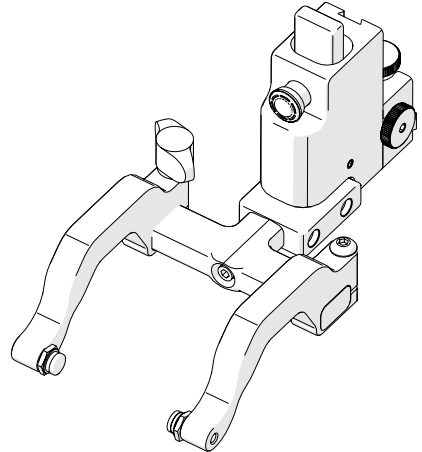

Fig. 185 - 90° probe holder positioning
2. Orient the yoke to the front of the probe holder and screw the yoke into the threaded hole provided (Fig. 185).